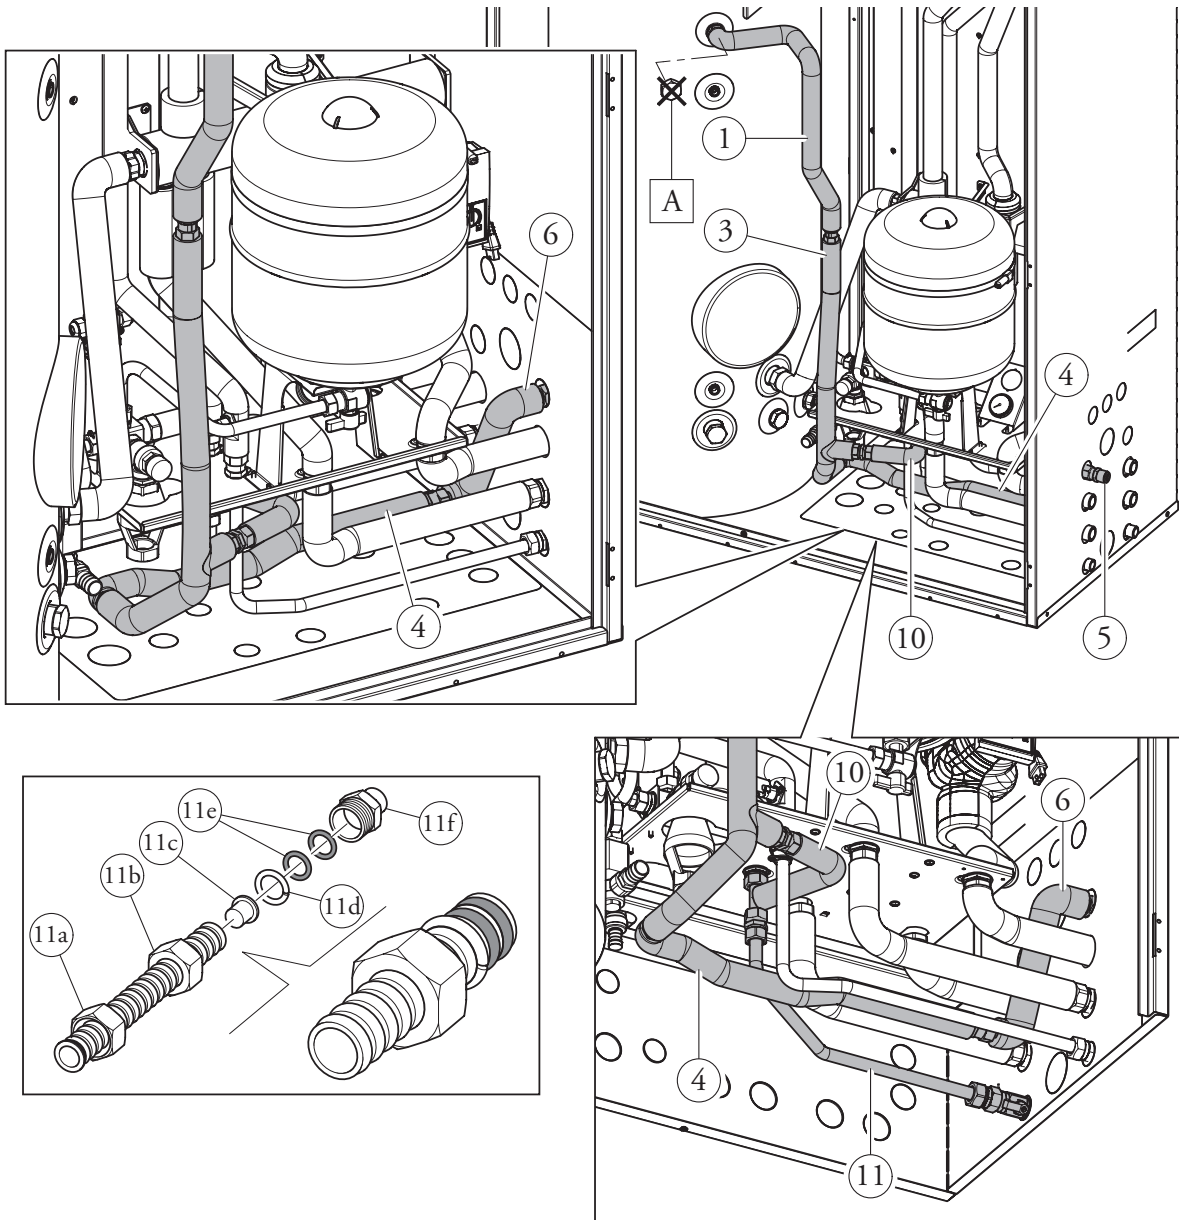

Fig. 2
- Connect the insulated recirculation pipe (4), the insulated flexible pipe (6) and the nipples (5) after having interposed the special flat seals (2) supplied with the kit, to the DHW recirculation system required for the side connection (Fig. 2).
- Connect the nipples (9), the non return valve (8) and the flexible pipe (11) to the insulated T-shaped pipe (10) in sequence after having interposed the special flat seals (2) supplied with the kit (Fig. 2).
N.B.: flexible pipe installation (11): insert the nut (11a) from the flange side. Temporarily connect the pipe (11). Shape the path of the flexible pipe, taking the measurements and lengths required, then if necessary cut the pipe using a pipe cutter to adapt the length as required. Insert the nut (11b), the plug (11c) at the mouth of the pipe and insert the brass ring (11d) in sequence, placing it on the 3rd groove and the 2 O-rings (11e) placing them on the 1st and 2nd groove. After placing the O-rings, remove the protective plug (11c). Join the brass fitting (11f) to the nut (11b).
- The recirculation pipe side connection can be performed in one of the holes provided (Fig. 2).